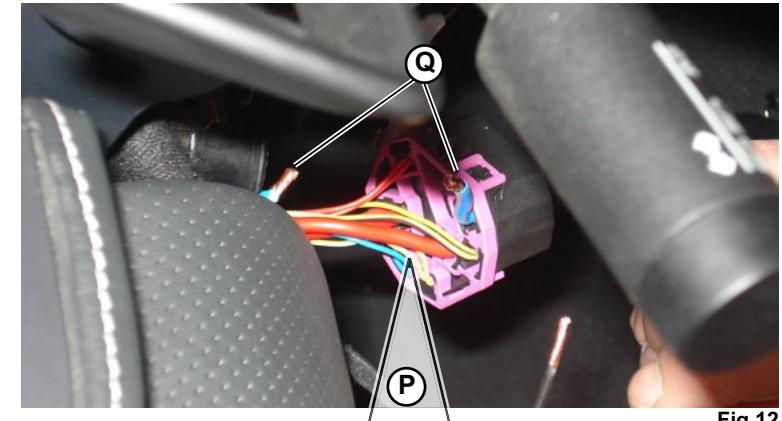

Fig.12
4. Locate the black/violet connector (**P-Fig.12**) of the ignition key and disconnect it from the key's block of the car.
5. Cut the two blue wires connected to the pin 5 of the black/violet connector (**P-Fig.12**) and afterwards uncover the two couple of extremes (**Q-Fig.12**) those are derived from the cutting. The result of this operation must be: a couple of blue wires that leaves the black/violet connector (**P-Fig.12**) and another couple of blue wires that come from the central wiring harness of the car.
It's possible that there is only one blue wire connected in the pin 5 of the black/violet connector (**P-Fig.12**). In this case, not far from the black/violet connector, this blue wire is split in two different blue wires; it's necessary to cut the blue wire near the black/violet connector (before the split) because in this way it is possible to block both the signal of this wire.
8. Connect the black/violet connector (**P-Fig.12**) to the key's block of the car.